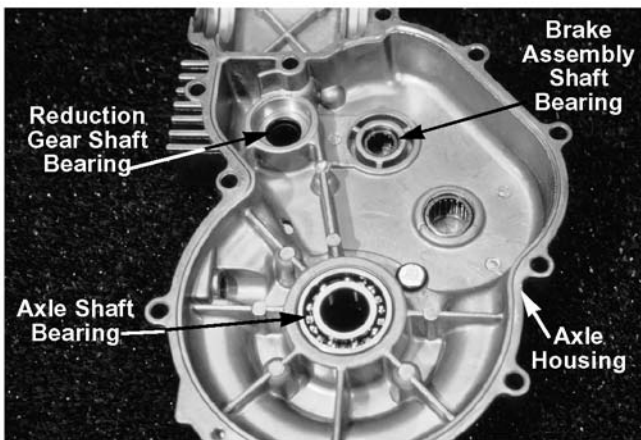

Figure 5-12.
- E. Brake assembly shaft bearing. See Figure 5-12.